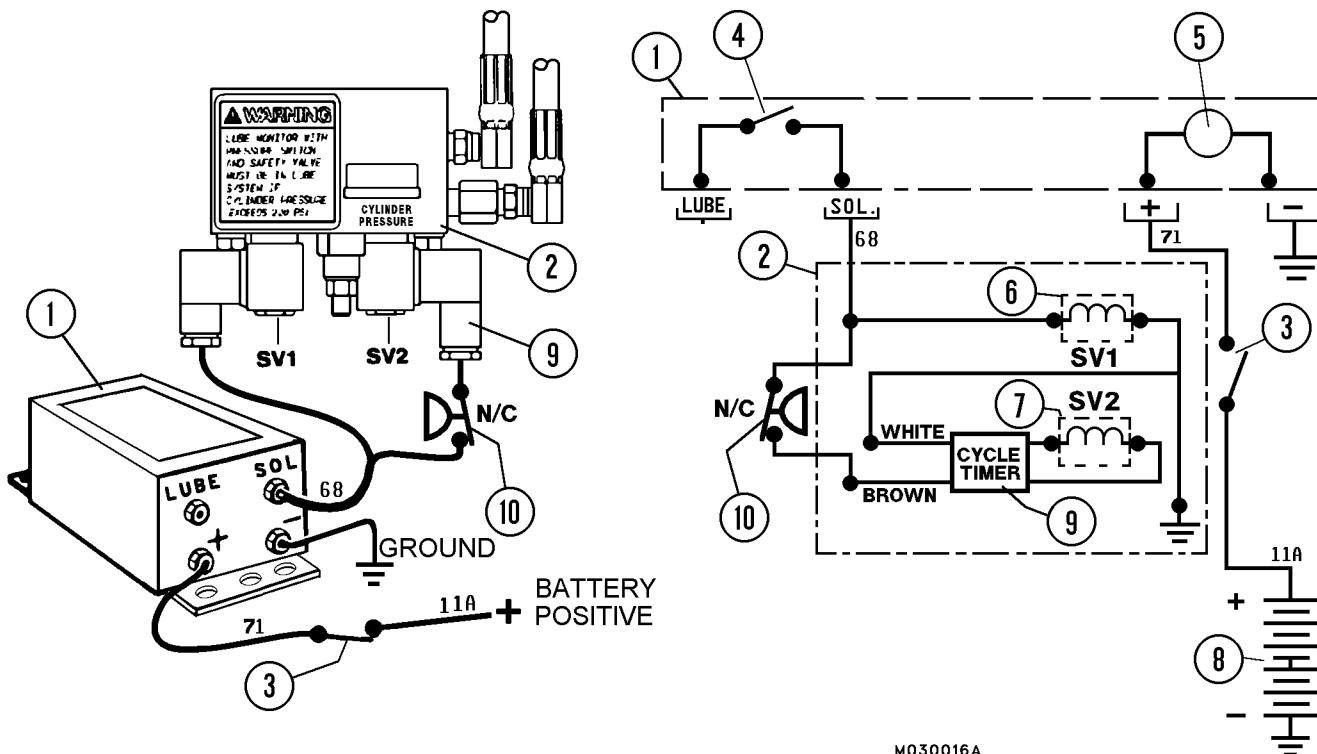

FIGURE 42-7. ELECTRICAL HOOKUP - TYPICAL
*NOTE: If terminal post identification on the solid state timer is not legible, refer to Figure 42-7 for terminal identification.*